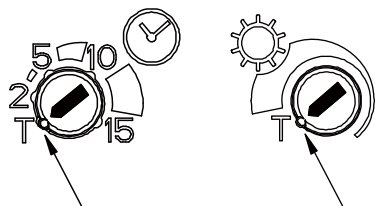

FIGURE 8
(1) TEST THE SENSOR
- Turn both the TIME and the LUX control knobs counterclockwise to the edge – the “T” position to enter TEST mode. (FIGURE 8)